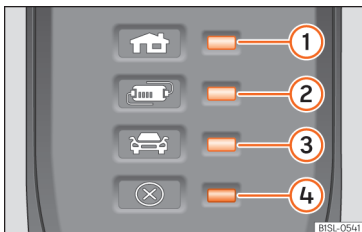

Fig. 65 On the charging cable for power sockets: Indicator lamps on the protection device.
»» Fig. 65:
The electronic protection device »» Fig. 65 ensures that the charging connector does not receive current until it is plugged in to the vehicle's charging connector.
One or more control lamps »» Fig. 65 ①, ② or ③ light up green.
Display »» Fig. 65	Meaning
①, ④ flashing	The housing connector has overheated.
②, ④ flashing	The protection device has overheated.
If the charging process continues with a lower current, both the operating indicator and the warning lamp »» Fig. 65 ④ flash red.
- If it disconnects again, or the charging current reduces and the cause does not seem to be exposure to an external heat source, make sure that the green control lamp is flashing >>> Fig. 65. To check the charging cable, please visit a SEAT dealer. Get an establishment that specialises in electrical installations to check the infrastructure connection.
If the red warning light ④ flashes or turns on without one of the indicator lamps >>> Fig. 65 ①, ② or ③ also turning on continuously on the status indicator, there is a fault.
Display >>> Fig. 65	Meaning